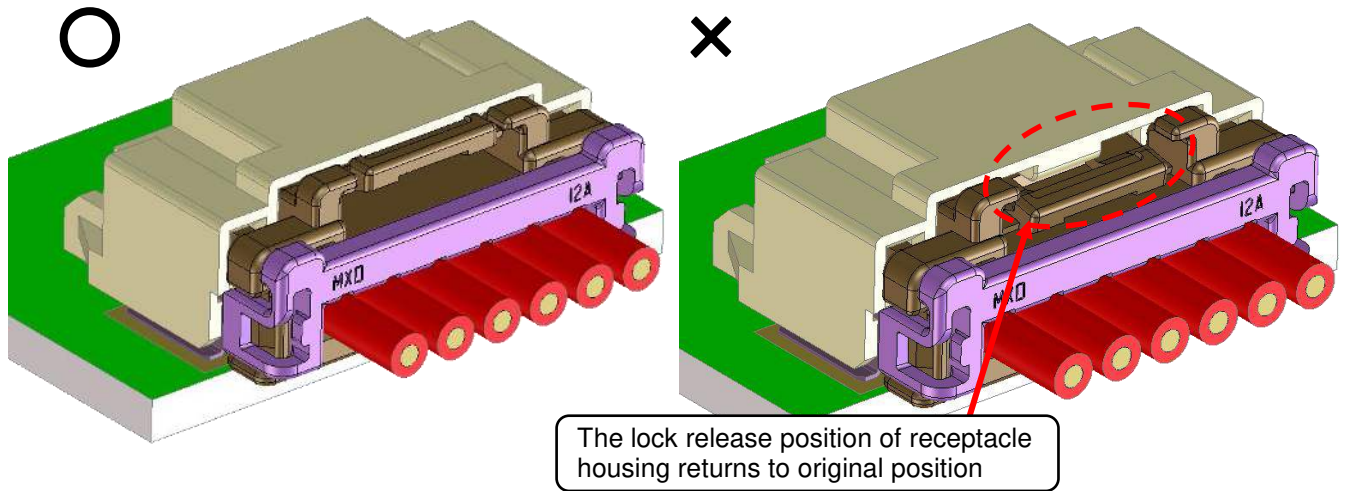

Fig.9-3 Confirmation of mating
- ※After insertion, please confirm not to come off connectors with pulling all wires lightly (about 2~3 N). When pulling wires, you should care not to apply the force to particular wire. Additionally, please confirm visually that the lock release position of receptacle housing returns to original position. **(Fig.9-3)** If not, it might be incompleteness mating. Please withdraw the connector according to Section 9-2, and check the terminals that have transformation.